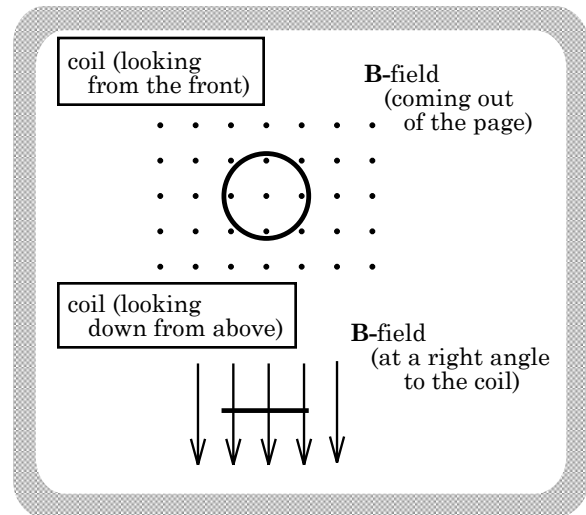
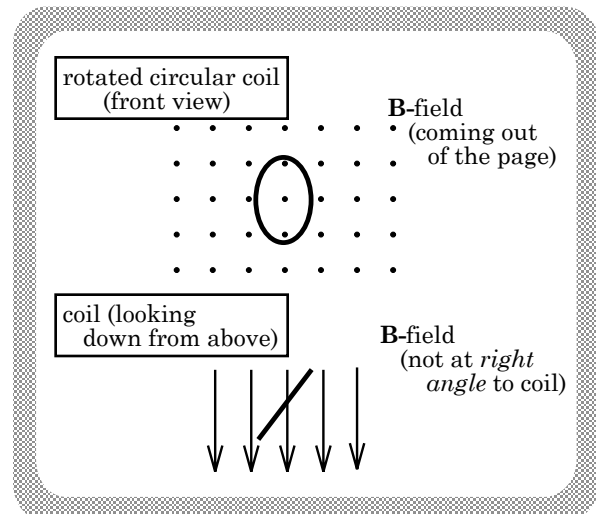
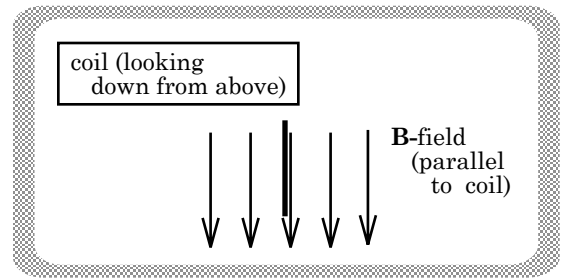

FIGURE 17.1
FIGURE 17.2
FIGURE 17.3
2.) If a magnetic field \mathbf{B} passes through the face of a coil of area A (see Figure 17.1), it will generate what is called a magnetic flux ϕ_m through the coil. The amount of flux is dependent upon several parameters:
c.) Figures 17.1, 17.2, and 17.3 show three different angular relationships between the coil's orientation and the direction of the magnetic field.
d.) Bottom line: When the coil is positioned as in Figure 17.1, there is more magnetic flux passing through its face than is the case in Figure 17.2. Notice also that there is *no* magnetic flux through the coil in Figure 17.3.